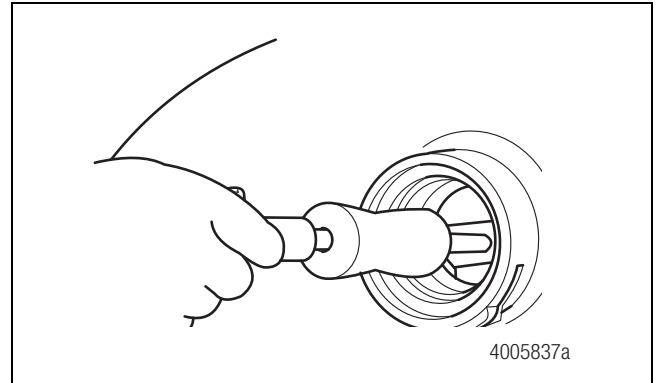

Figure 3.16
8. Use a puller to remove the inner bearing cup from the output shaft bearing cage. Figure 3.16.